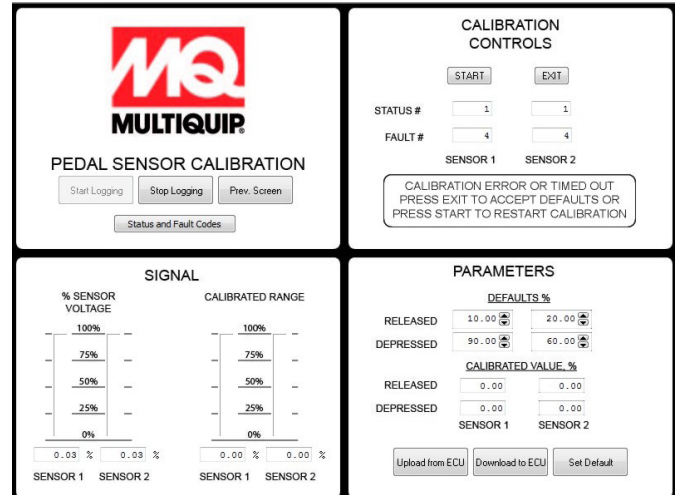

Figure 32. Start Pedal Sensor Calibration
- b. Read % SENSOR VOLTAGE for both sensors 1 and 2 (Figure 32).